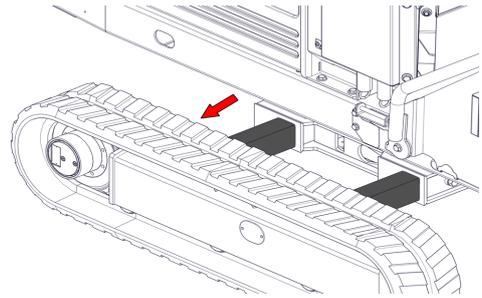

Figure 40 - Slider Bar Location
1. Extend the tracks fully (Figure 40).